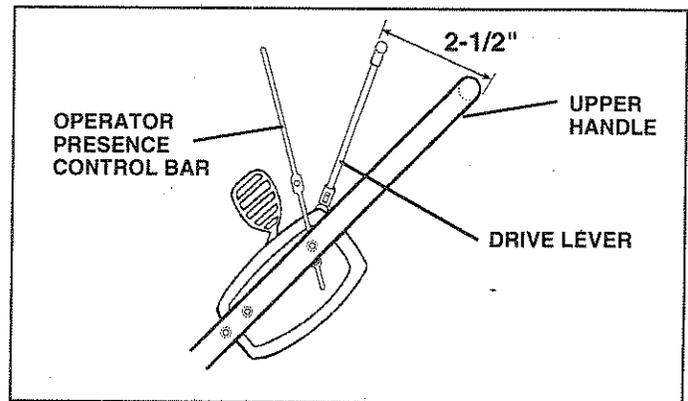

FIG. 25
- When rear wheels stop turning, hold the drive lever and check the dimension as shown in Fig. 25.